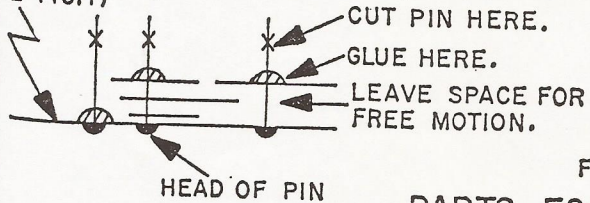
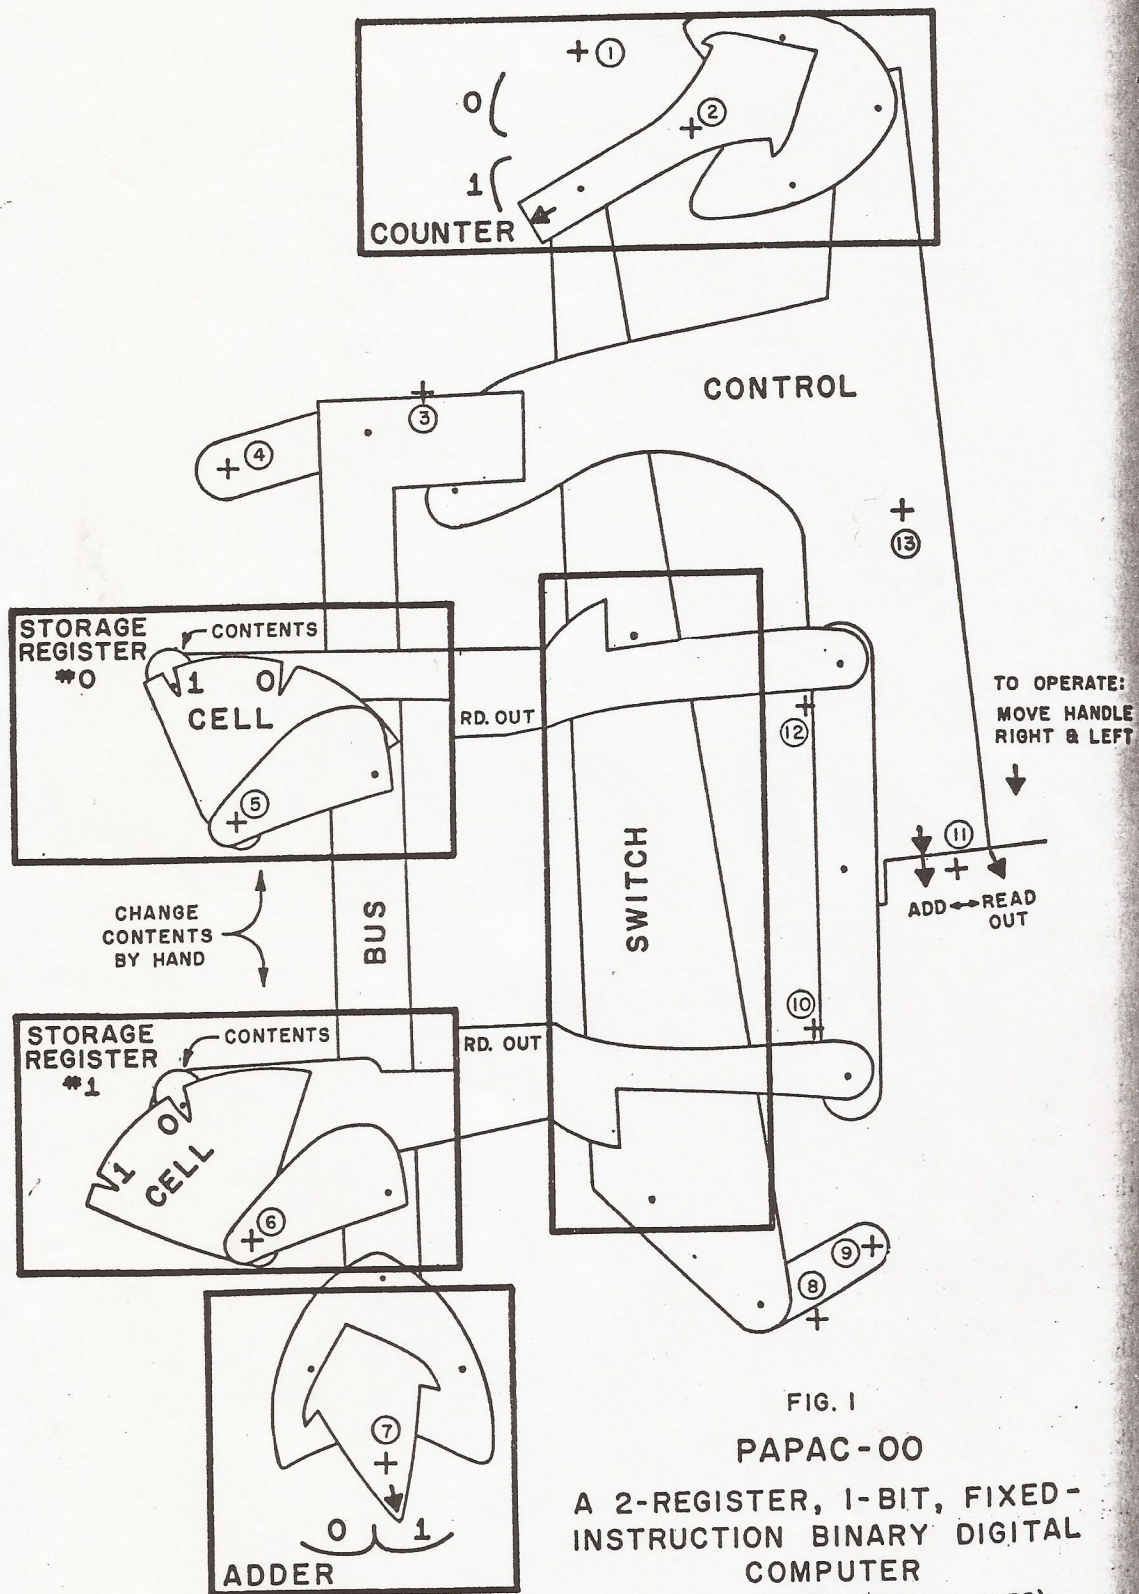

FIG. 2
FIG. 1
In less than an hour you can build the simplified digital computer shown in Figure 1, using only a pair of scissors, three dozen common pins, and the parts shown in Figures 1 and 2. This computer was developed from the model demonstrated in the Concord, Massachusetts, High School lectures on computers reported in SENEWS Volume I, Number 1.
To assemble PAPAC-00, Figure 1 should be used as the base, and the shapes of Figure 2 should be fitted over it by following these steps:
(SEE FIG. 1)
1. Punch a pinhole exactly through the intersection of each cross (+) in Figures 1 and 2 (but not the dots in Figure 1).
2. Cut out exactly on the lines, the parts in Figure 2, in any order. They are marked with a letter in a square box, from [A] to [V], and the next steps will be easier if you place each piece on the table in alphabetic order as you cut it out.
4. Taking each part of Figure 2 in alphabetic order, place its *uncircled* number holes down over the correspondingly numbered pins.